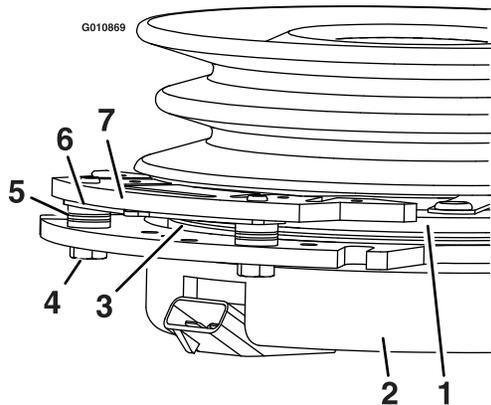

**Figure 61**
3. Remove the dust cap from caster and tighten the locknut (Figure 61).
4. Tighten the locknut until the spring washers are flat, and then back off a 1/4 turn to properly set the preload on the bearings (Figure 61).
**Important:** Make sure that the spring washers are installed correctly as shown in Figure 61.
5. Install the dust cap (Figure 61).